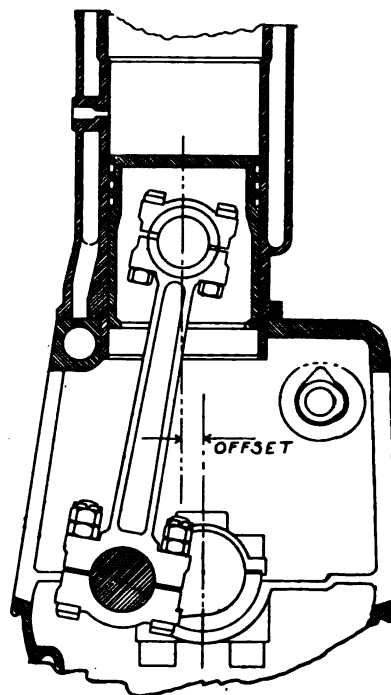

Fig. 31.
- 217 — The top and bottom centers must not be judged by the apparent vertical position of the connecting rod, due to the fact that in actual construction engines are given an "offset," that is, the center line passing through the cylinder does not pass through the center line of the crankshaft. Fig. 31 is a diagram showing an exaggerated condition of "offset."